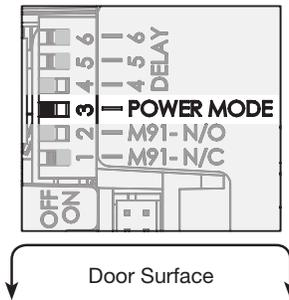

Figure 10 – DIP Switch Setting for Power Mode Installation
C. Ensure DIP switch (position 3) enables **Power Mode** (**Figure 10**).